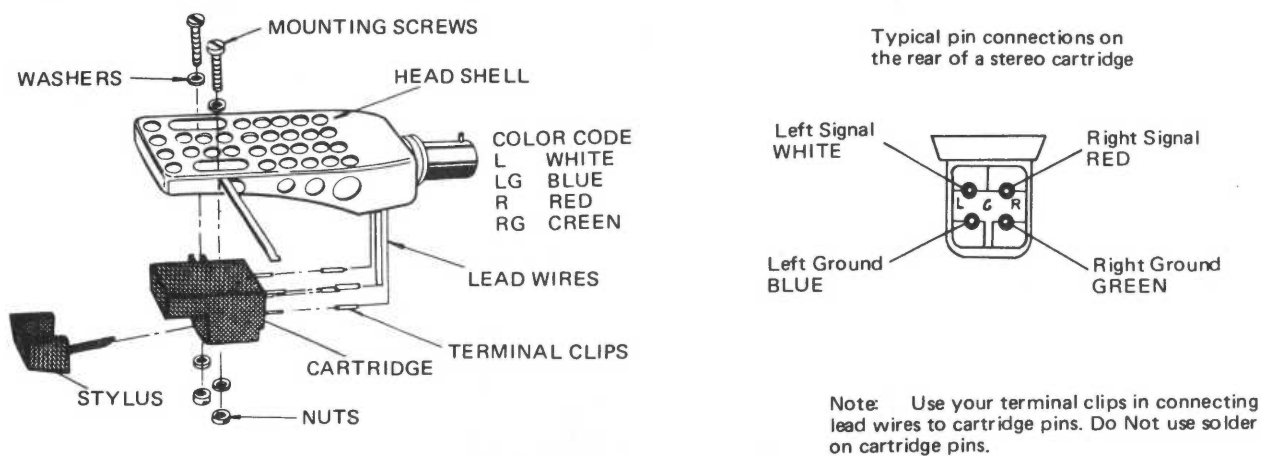

Fig. 1.
4. Refer to Fig. 1 (please note that mounting screws, washers and nuts are supplied with head shell for mounting the cartridge).
6. Using tweezers or long nose pliers, carefully connect wires following the color code as shown in figure 1.
7. Using screws, washers and nuts (supplied), loosely install cartridge to the head shell as shown in Fig. 1. (a small flat screwdriver is required). Do not fully tighten screws. Replace stylus in cartridge.